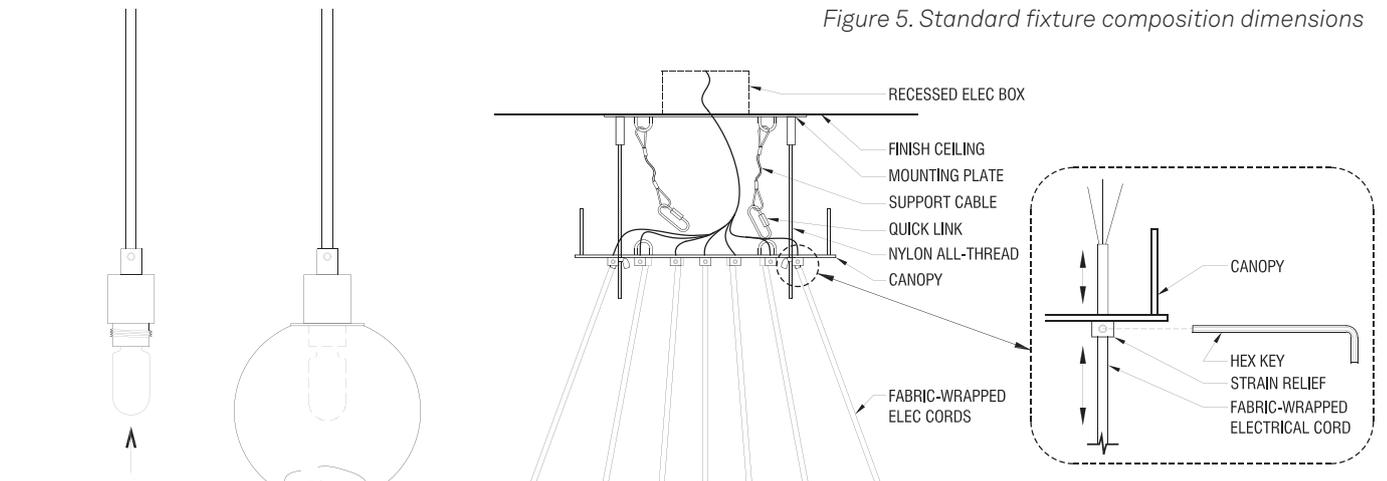

Figure 6. Leveling the fixture
- 7 Determine the length of exposed cord required above each ring in order to achieve the desired overall drop length. Then, leaving enough extra length to make the electrical connections in the canopy, trim any excess length of electrical cord - when trimming the fabric-wrapped electrical cords make sure to use electrical tape or other means to secure the fabric at the location of the cut, and then at the cut end to avoid splaying or fraying or slack in the fabric. Carefully pass each cord through its corresponding strain relief on the canopy and gently tighten each strain relief enough to support the fixture. Adjust strain reliefs as necessary to level the rings (Figure 6).